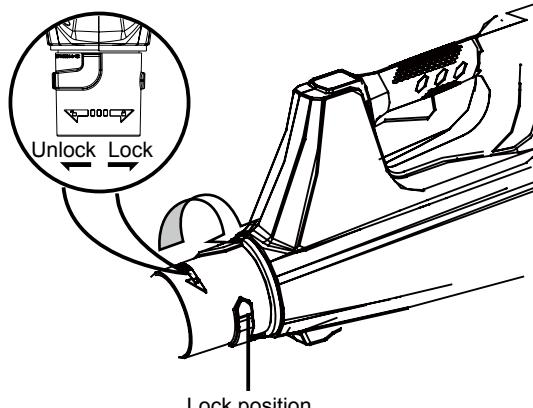

Fig. 3
2. Turn the tube in the direction of the arrow until both of the tabs slide into the lock positions . Clockwise to Lock and Counter Clockwise to remove (Fig. 3).